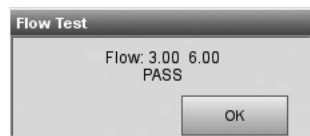

Fig. 8-25 Flow Test Pass
- The two numbers indicate the actual flow rates clockwise and counter clockwise (Fig. 8-25). If one of the two or both rates are out of range, the test fails.